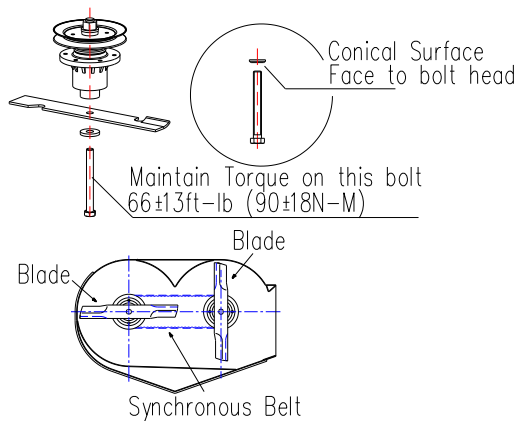

FIG 6
- Re-install the blades (if they were removed) by placing a block of wood between the front or rear baffles and the blade; then torque the blade bolts to $66 \pm 13 \text{ft-lb}$ ($90 \pm 18 \text{N-M}$). Be sure the spring disk washer cone is installed toward the bolt head. (See FIG 6)